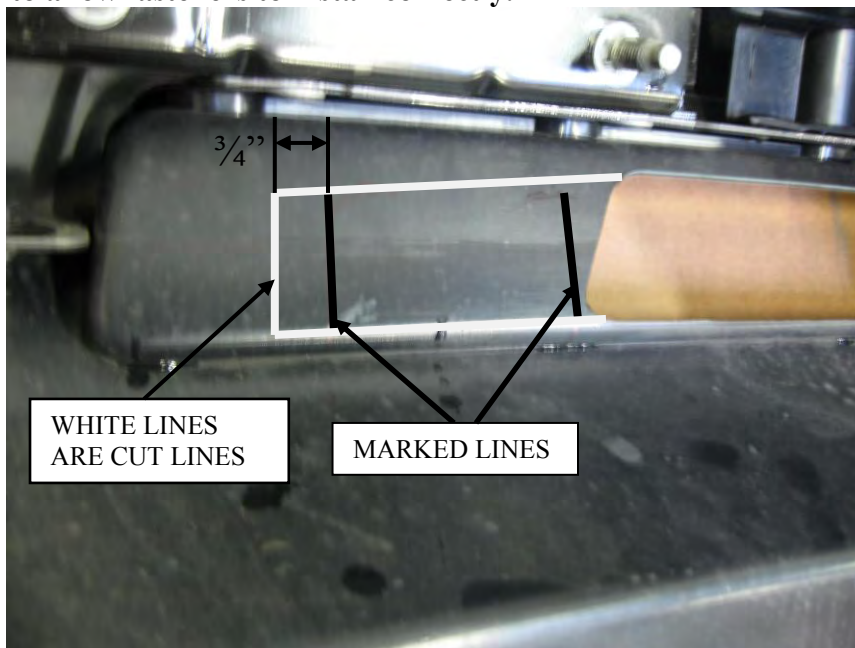

Figure 2A Valance cutting diagram.
8. To cut the valance, see **Figure 2A**. Once marked, remove the bumper. Drill a 1/4" hole near each corner. The holes should touch the two marked lines at each corner or cut through them slightly.